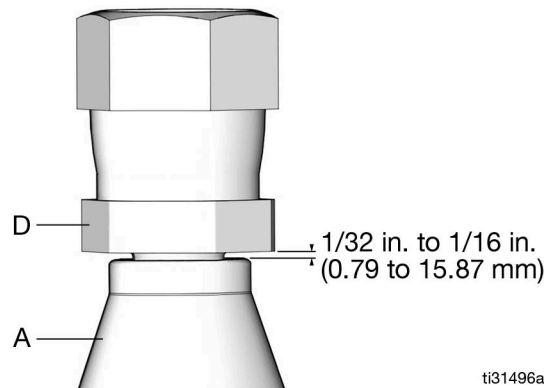

FIG. 69
8. Leave 1/32 in. to 1/16 in. (0.79 mm to 15.87 mm) clearance between the socket (a) and the hex (d) (FIG. 69).